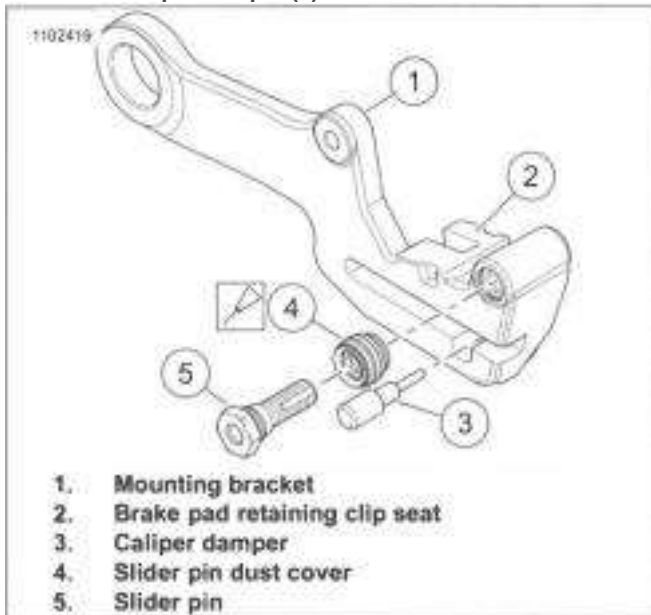

Figure 3-50. Rear Caliper Mounting Bracket
1. See Figure 3-50. Remove slider pin (5).
2. Remove slider pin dust cover (4).
3. Remove caliper damper (3).
1. See Figure 3-50. Install caliper damper (3).
2. Apply grease to the inside of slider pin dust cover (4).